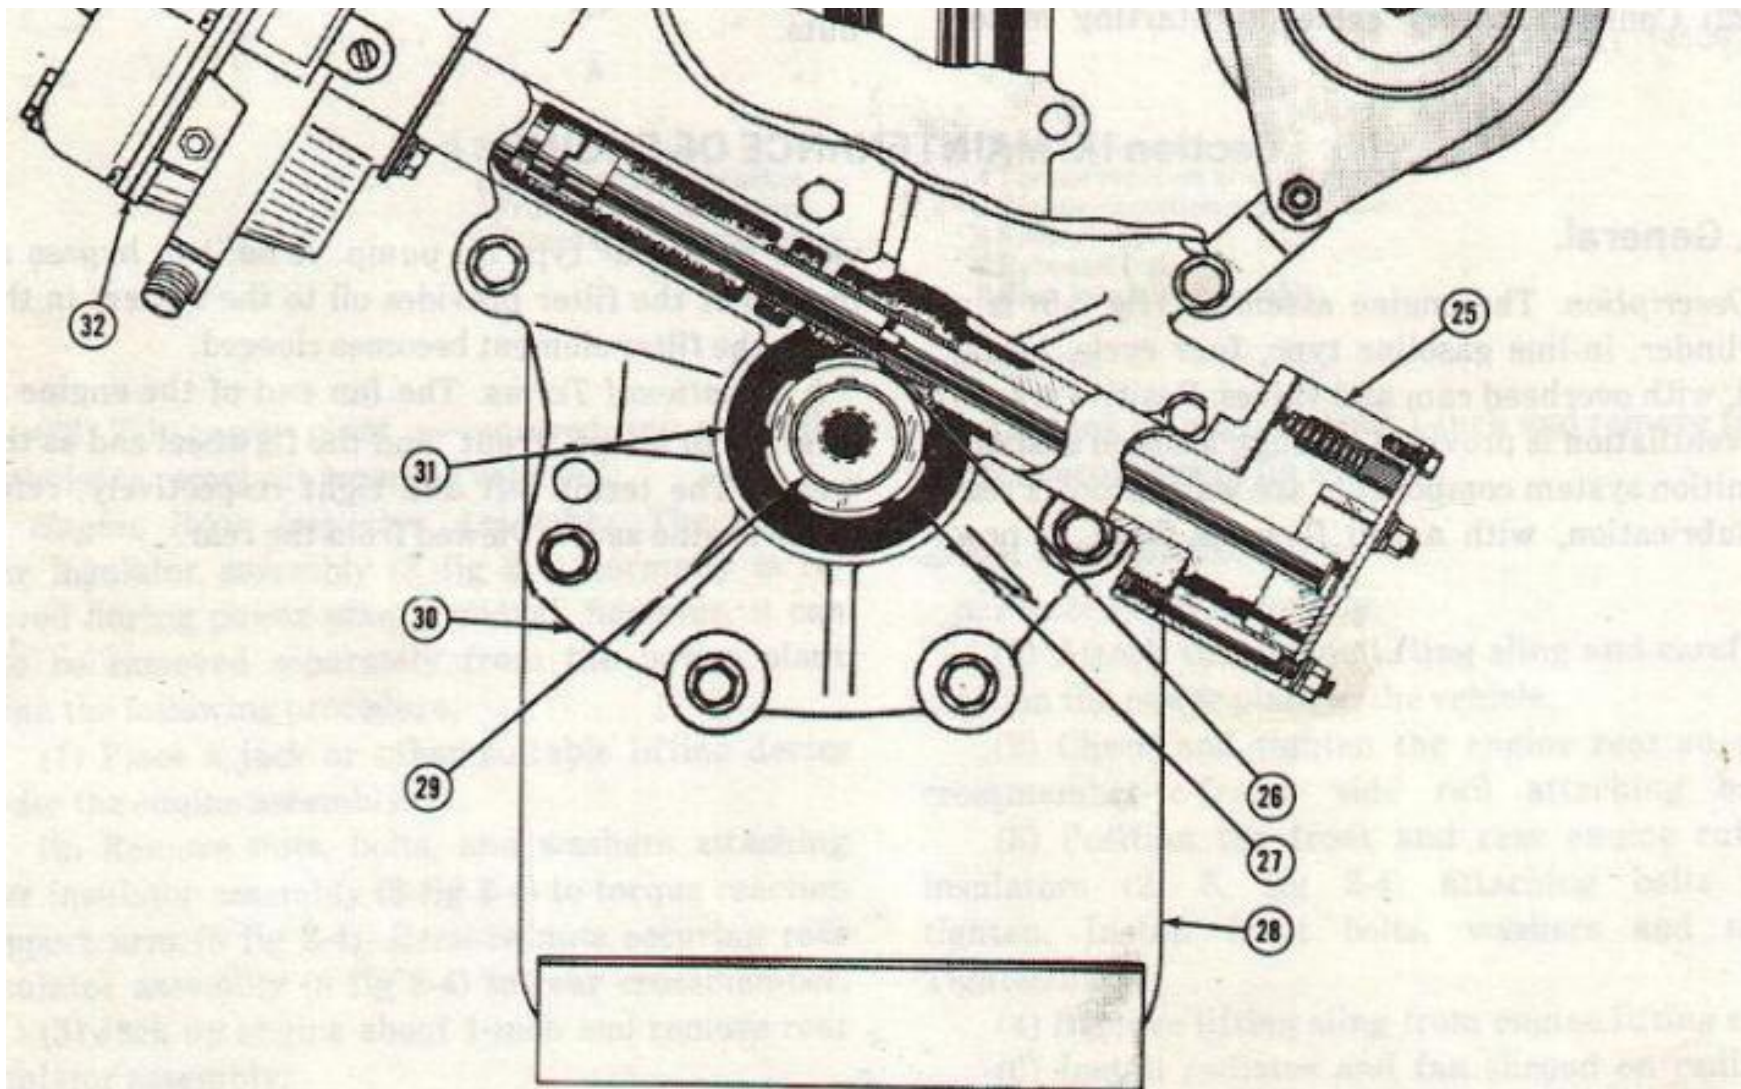

Figure 2-5. Front Sectional View
- a. Description. The engine assembly (fig 2-5) is a six cylinder, in-line gasoline type, four cycle, liquid cooled, with overhead cam and valves. Positive crankcase ventilation is provided through a closed system. All ignition system components are waterproof. Pressure lubrication, with a full flow oil filter, is provided by a gear type oil pump. A built-in bypass at the top of the filter provides oil to the system in the event the filter element becomes clogged.